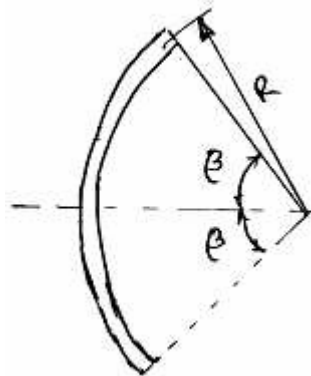

Figure 6
6. A cross-section in the shape of a circular arc of uniform thickness is subtending an angle β from either side of the symmetrical axis. Shown in figure 6. That shear centre $e = 2R(\sin\beta - R\cos\beta)/(R - \sin\beta \cdot \cos\beta)$. [16]